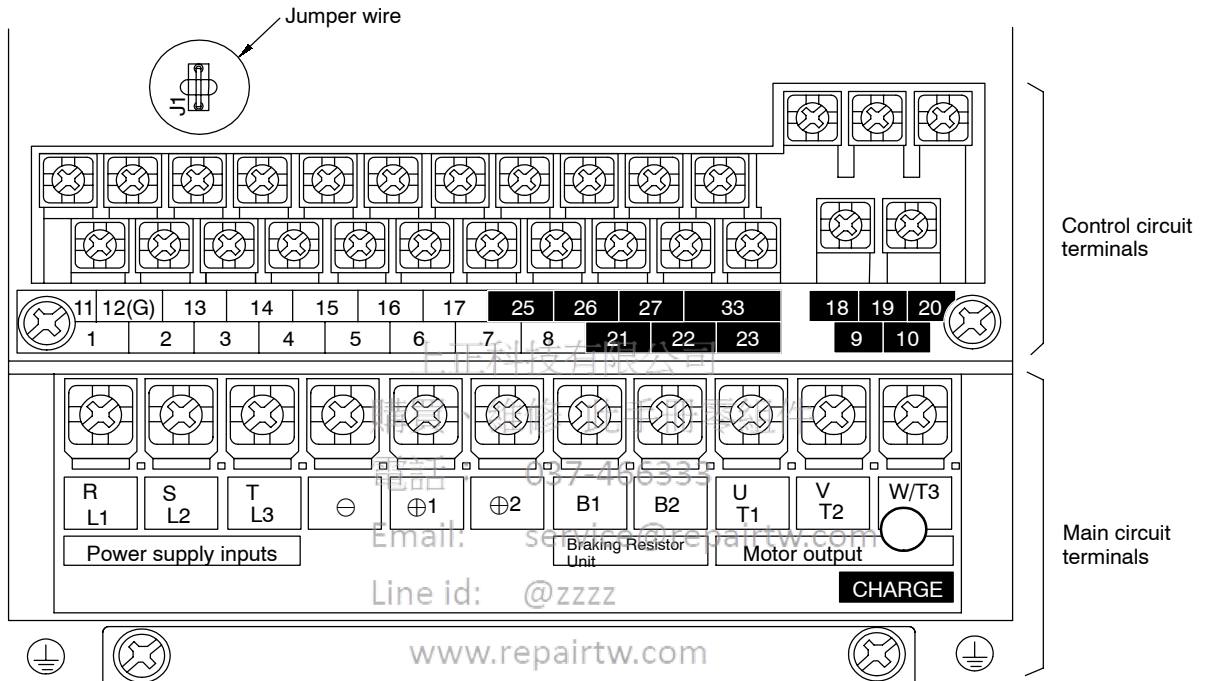

Fig 7.11 Jumper Wire Location for 200 V Class Inverter of 0.4 kW
- When supplying a voltage input to the frequency reference current input (terminal 14) (a setting of 0 or 1), be sure to disconnect jumper wire J1 on the control board. (See Figure 7.11.) If the jumper wire isn't disconnected, the input resistor will be destroyed.
- When supplying a voltage input to the frequency reference current input (terminal 14), be sure to disconnect jumper wire J1 on the control board. If the jumper wire isn’t disconnected, the input resistor will be destroyed. Refer to *Figure 7.11* for a diagram of the control board.